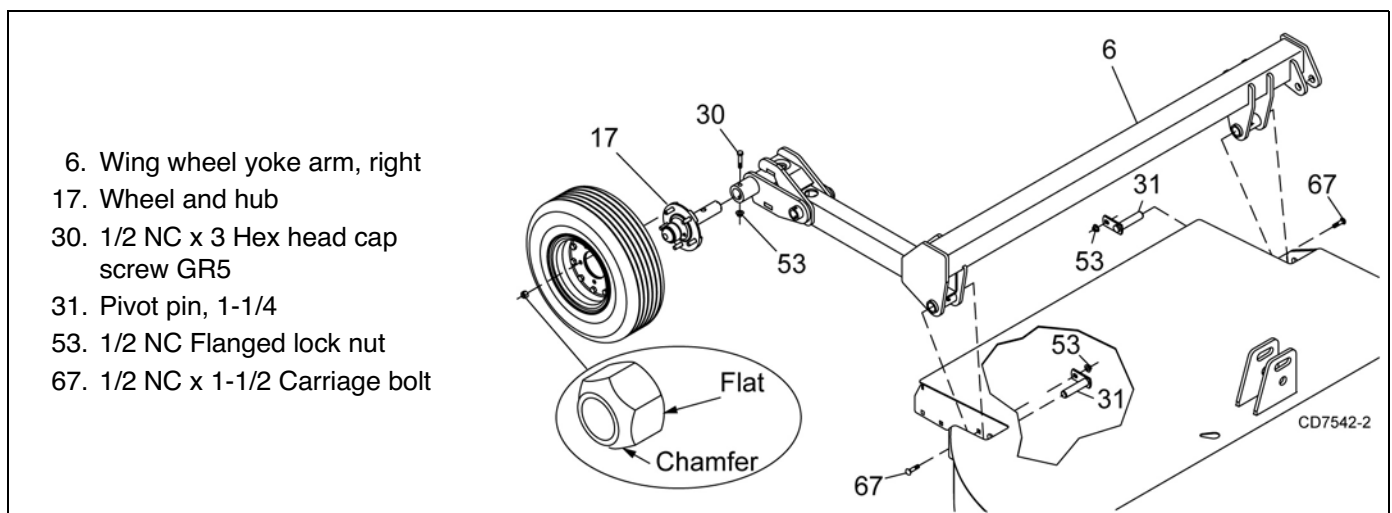

Figure 32. Wing Wheel and Hub Installation - Right
Install Wing Wheel Yoke (Figure 32)
1. Place carriage bolts (67) through holes in wing. Carriage bolts are on the outside; lock nuts on the underside.
2. Attach wing wheel yoke (6) to the wing using pivot pins (31). Make sure pin flange is on the underside of the deck. See Figure 32.
3. Secure pivot pins to deck using carriage bolts (67) and flange lock nuts (53).
4. Insert wheel hub (17) into wing wheel yoke arm (6) and align holes.
5. Secure into position using cap screw (30) and flanged lock nut (53).
1. Place carriage bolt (67), Figure 32, through holes on wing. Carriage bolts are on the outside; lock nuts on the underside.
2. Attach wing wheel yoke (2), Figure 34, to the wing using pivot pins (31). See Figure 32 for pin and hardware installation. Make sure pin flange is on the underside of the deck.